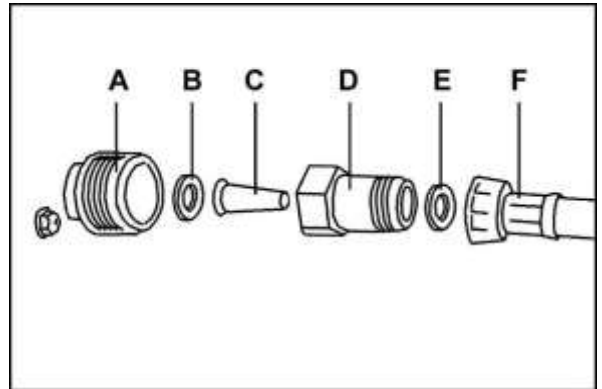

Fig. 3.4
**Assembling the filters and their connection (Fig. 3.4)**